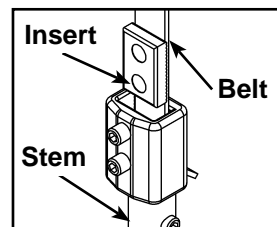
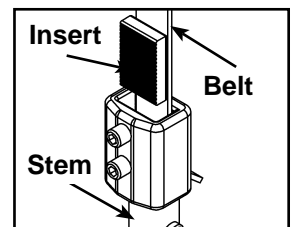

Figure 8A
Figure 8B
D. Verify belt and insert are installed properly, as shown in Figure 8A. **NOTE:** Do not install the insert backwards as shown in Figure 8B.